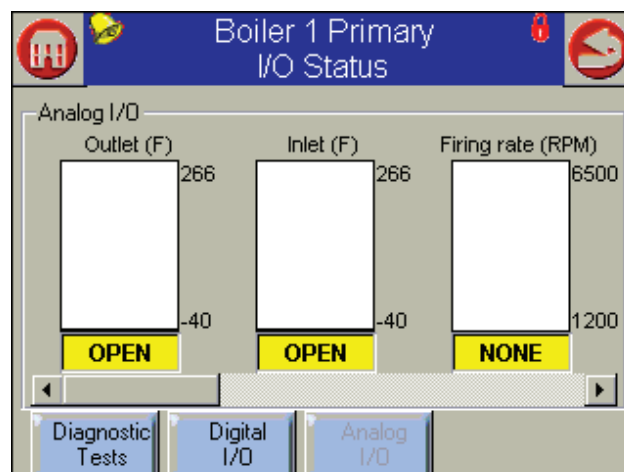

Fig. 133 – Analog I/O Screen
2. Press the Analog I/O button to look at functions where the values move continuously between two limits. See Fig. 133.